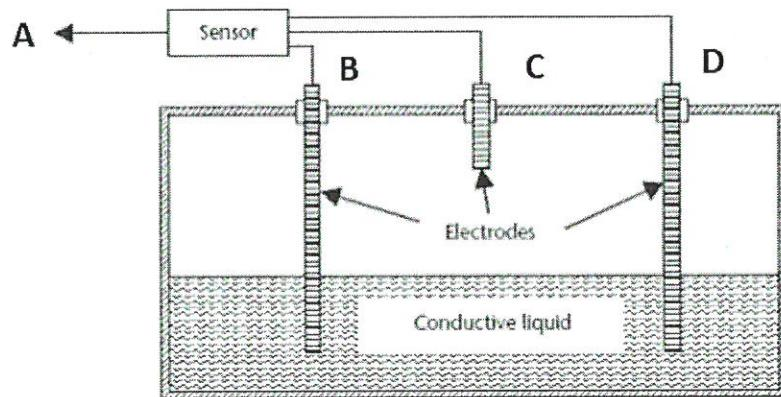

Figure 2(a)/ Rajah 2(a)
- CLO1 (a) Conductive probes could be used for level setting. Label the conductive probe A, B C and D in Figure 2(a).